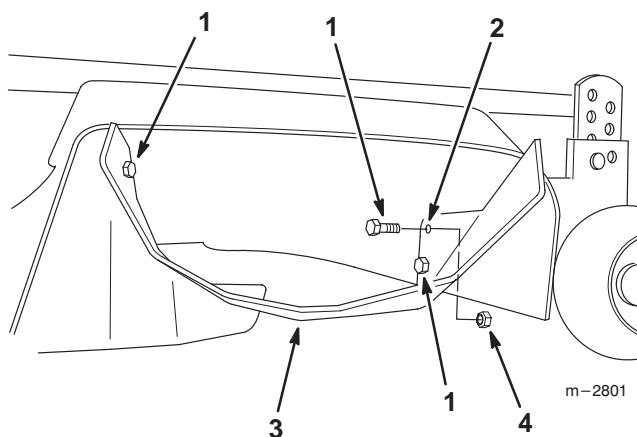

Figure 5
9. Position the deflector underneath the deck and align the front and rear deflector mounting holes with the drilled holes in the deck. Fasten the deflector to the mower deck with two (2) 5/16"-18 x 3/4" (19 mm) hex bolts and locknuts. Insert the hex bolts from the inside of the deflector (Fig. 5).
10. Using the deflector as a guide, mark and drill the one (1) remaining 11/32" deflector mounting hole in the front of the mower deck (Fig. 5).
11. Finish fastening the deflector to the mower with one (1) 5/16"-18 x 3/4" (19 mm) hex bolt and locknut (Fig. 5).